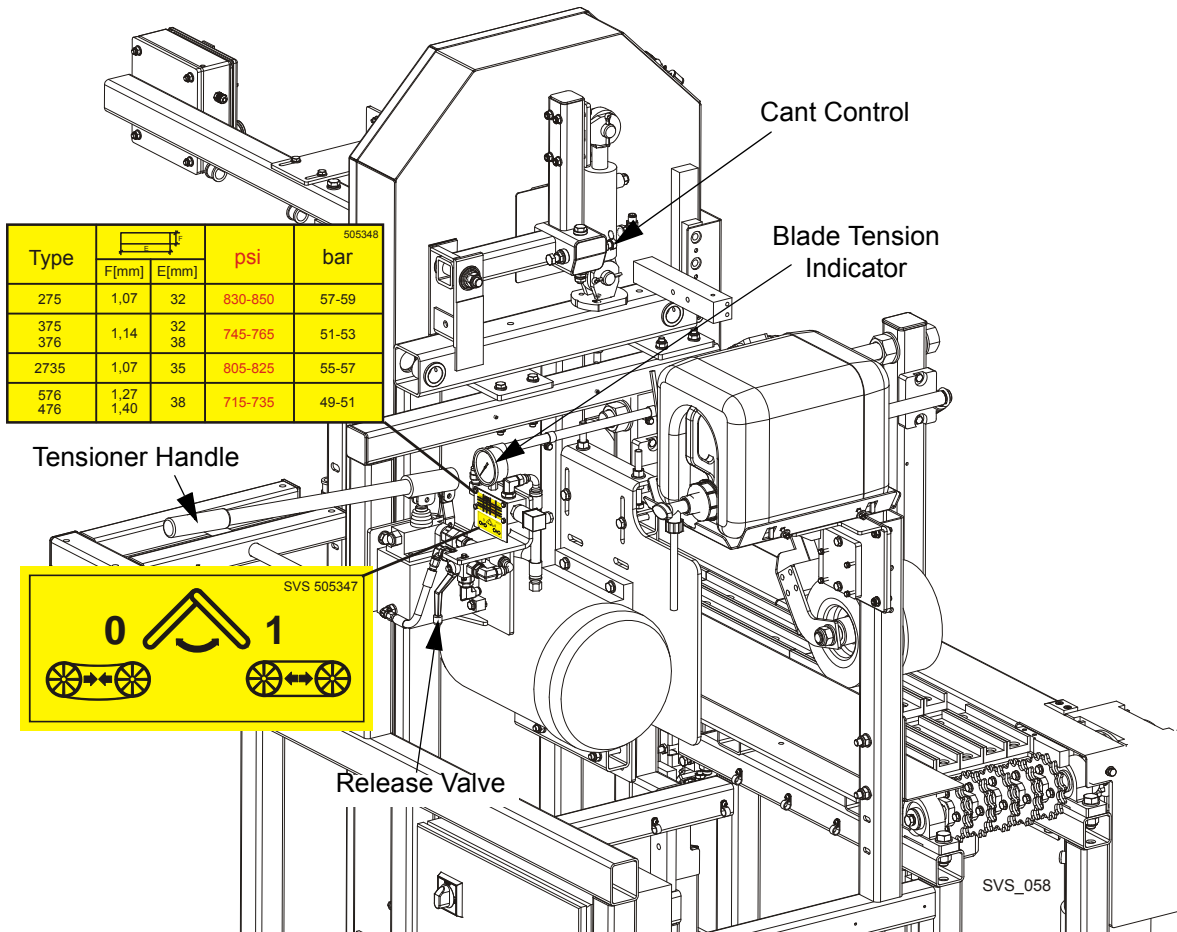

FIG. 2-3
See Figure 2-3. Place the provided handle in the blade tensioner socket and secure with a screw. Set the tensioner valve to position "1". Move the tensioner handle up and down to tension the blade. Depends on the installed blade type, tension the blade to the value shown on the decal located below blade tension valve. Values "F" and "E" are: blade thickness and blade width. Check the blade tension occasionally when adjusting the cant control or while cutting and adjust if necessary. As the blade and belts heat up and stretch, the blade tension will change. Also, ambient temperature changes can cause
5. Use the cant adjustment bolt, shown in **Figure 2-3**, to adjust where the blade travels on the blade wheels.